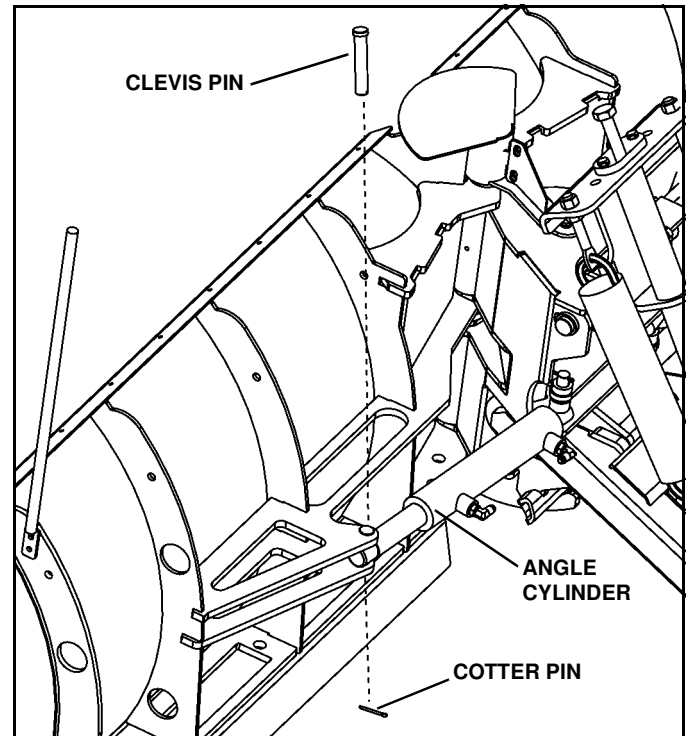

Figure 1-9
10. Lower each angle cylinder end, and attach angle cylinder to the each blade frame with 3/4" x 4" clevis pin (p/n 98100007) and 5/32" x 1-1/2" cotter pin (p/n 98009085). (See Figure 1-9). Repeat for opposite side.